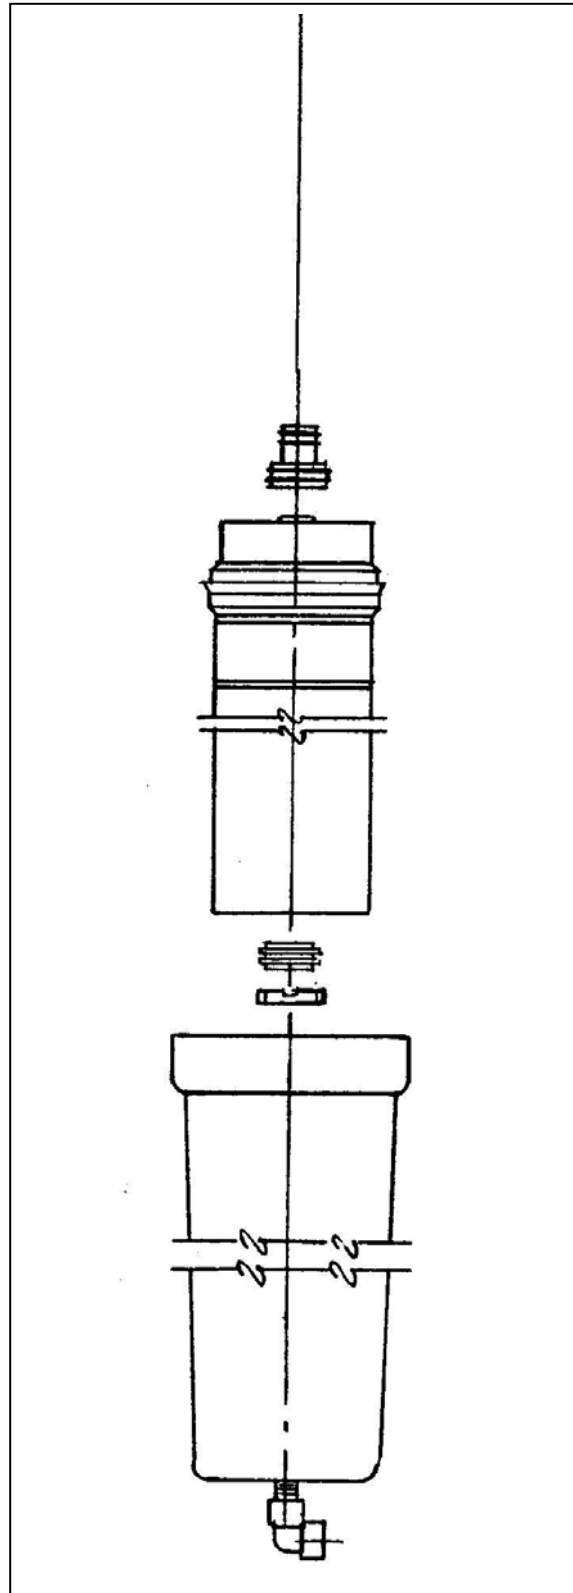

Figure 5
5. Center the lower spacer disk over the support post in the bottom of the bowl. **NOTE:** Orient the disk in the bowl so that the slots are upward. (See Figure 5).